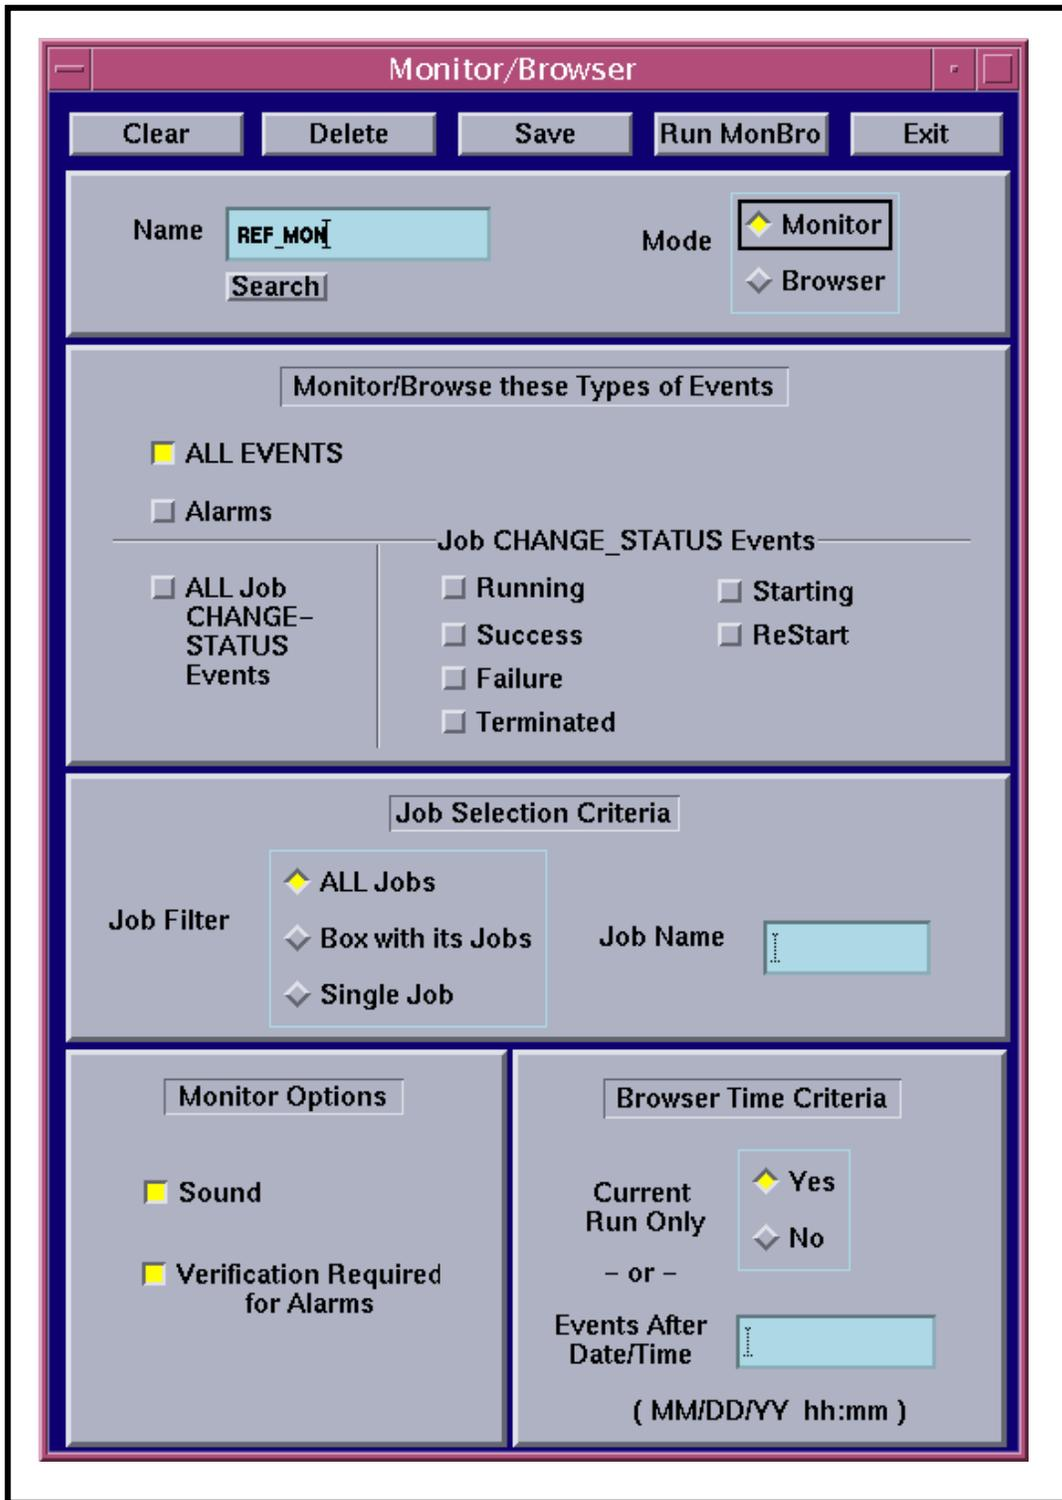

Figure 81. Monitor/Browser GUI
- The **Monitor/Browser** GUI (Figure 81) is displayed.